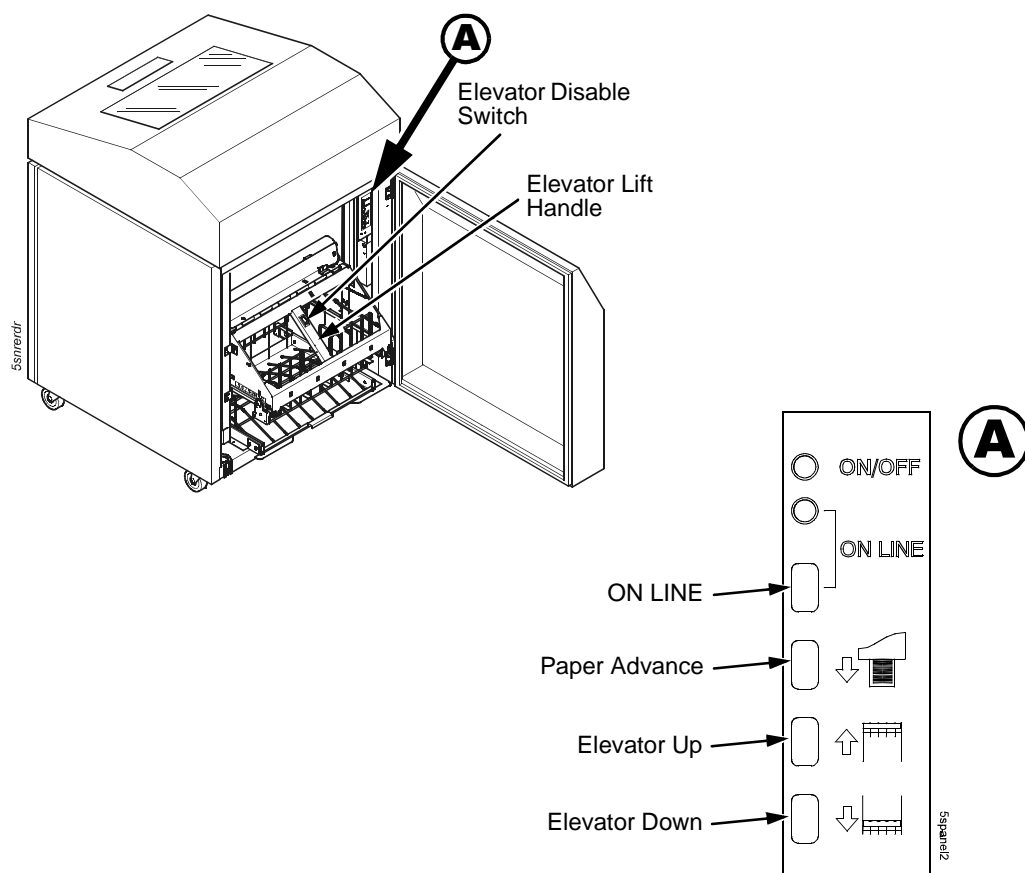

Figure 59. The Rear Control Panel
2. Using the rear control panel, press the ON LINE key to take the printer offline. (Figure 59.)
3. Press the elevator disable switch, grasp the elevator lift handle, and raise the elevator to the top of its travel. (Figure 59.)